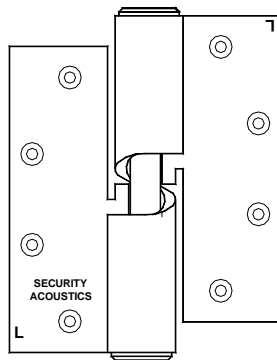

FIGURE 4
**A.** Mount the Gravity Glide hinges (**Fig. 4**) to the frame and door with the 12-24 flat head machine screws and #12 flat head wood screws provided. The hinge leaf with the pin mounts to the frame. All hinges are handed for left hand and right hand assemblies and